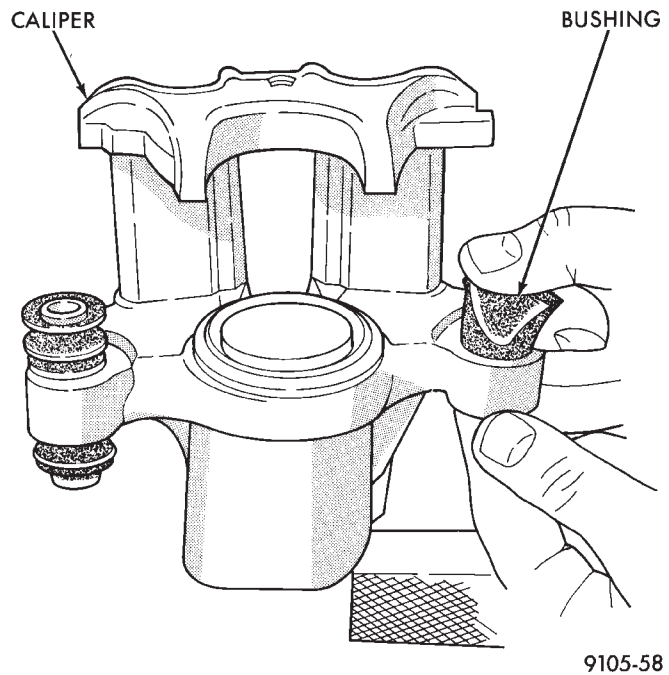

Fig. 154 Removing Bushing From Caliper
(3) Using your fingers, collapse one side of the bushing. Then pull on the opposite side to remove the bushing from the brake caliper housing (Fig. 154).